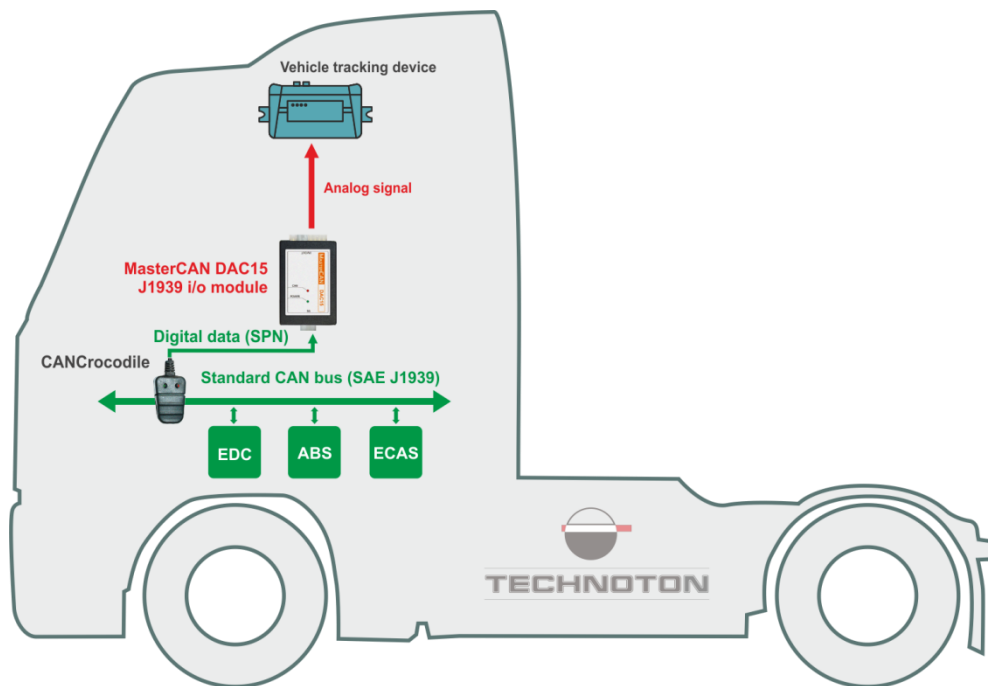

Figure 1 – Example of MasterCAN DAC15 employment for conversion of CAN-bus data into analog signals
- 1) Converting digital data of CAN j1939/S6 Telematics interface or automotive CANbus to various types of analog signals (see figures 1 and 2).
MasterCAN DAC15 CAN-converter in combination with CANCrocodile contactless reader is a ready-for-use solution for conversion of data from the vehicle CAN-bus into the Telematics system in which the Vehicle tracking device with analog inputs is used (see figure 1).